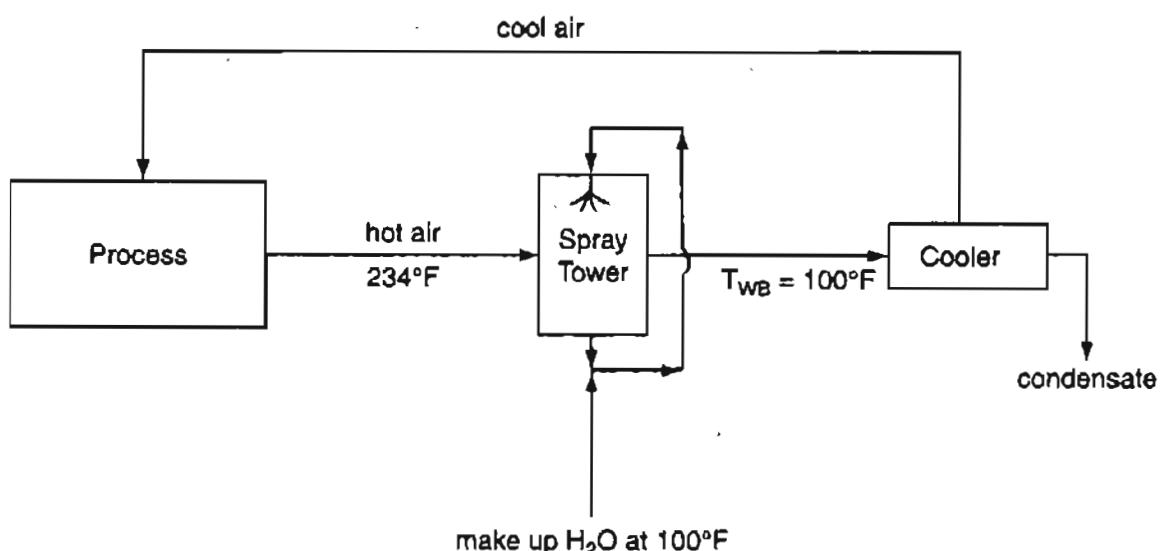

Figure P29.35
- **29.35 Air is used for cooling purposes in a plant process. The scheme shown in Fig. P29.35 has been proposed as a way to cool the air and continuously reuse it. In the process,